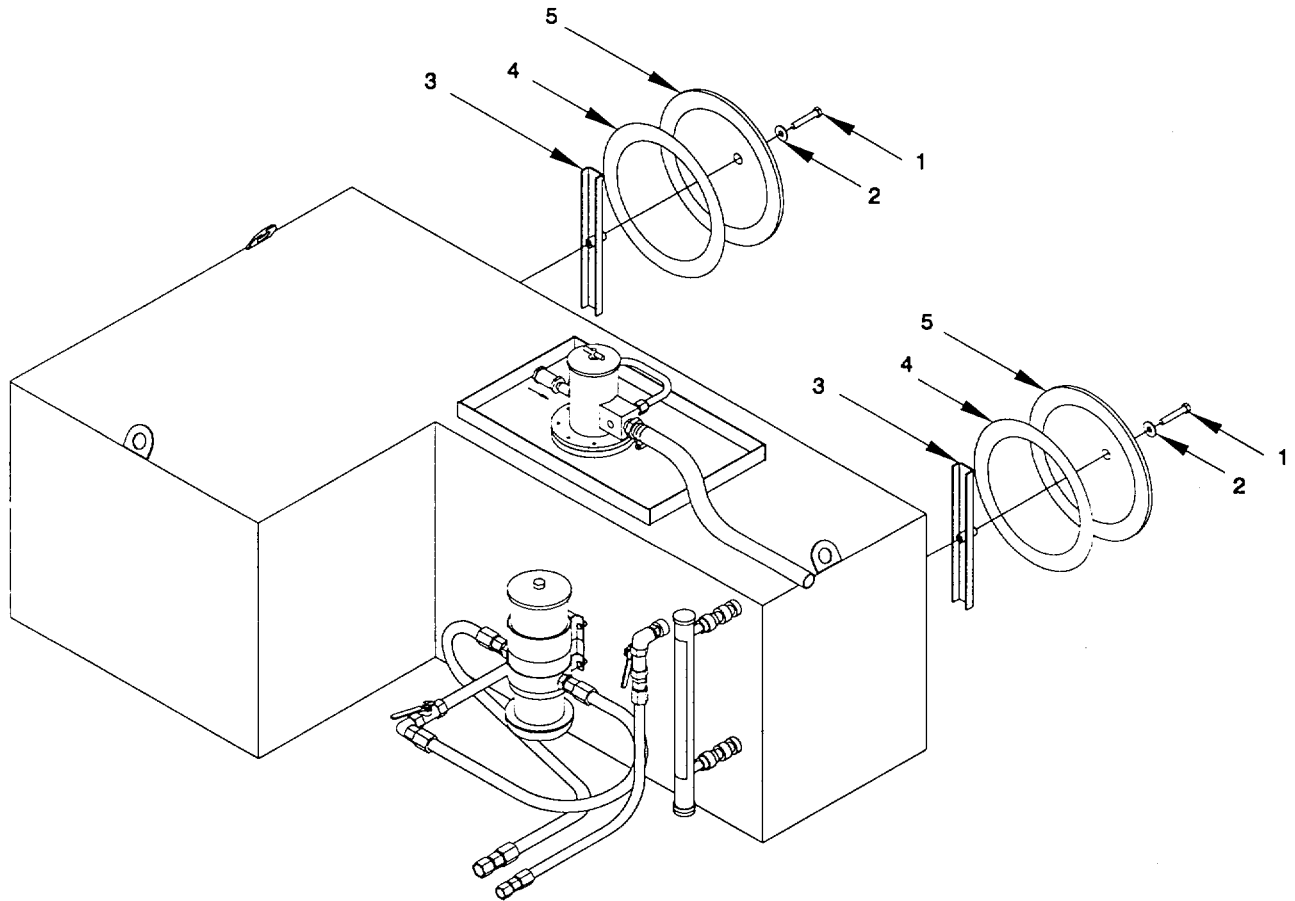

Figure 2-46. Inspection Covers, Fuel System, Remove/install.
a. Remove. (figure 2-46)
- (1) Remove hex head capscrew (1) and collect washer (2), locking bar (3), rubber seal (4), and domed cover (5).
- (2) Inspect inside of fuel tank for corrosion, damage, or accumulation of foreign matter. Clean as required. Inspect rubber seal (4) for damage or deterioration.
b. Install. (figure 2-46).
- (1) Position rubber seal (4) and domed cover (5) over fuel tank. Secure with locking bar (3), washer (2), and hex head capscrew (1).